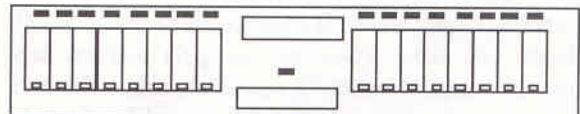

Figure 20 - Cut the 1/2MB links shown in black (Don't forget the one in the middle!)
- (1) You do not need to touch the MMU or Video Shifter adaptors.
- (2) Remove the top of your ST as described on pages 6 to 8.
- (3) Cut all of the wire links on the XTRA-RAM RAM board shown in figure 20. Do not forget the link in the middle of the board between the two connectors.